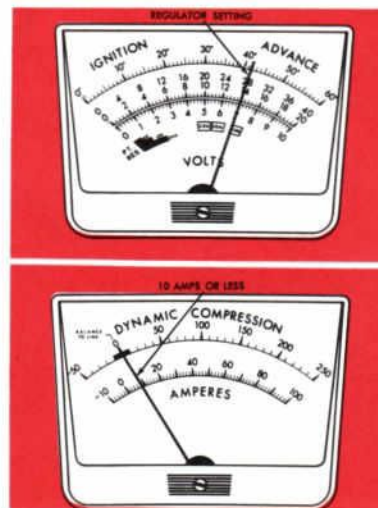

Figure 9—Regulator Setting Test
2. Check that the ammeter reads 10 amps or less (Figure 9). This indicates the charge is being regulated.